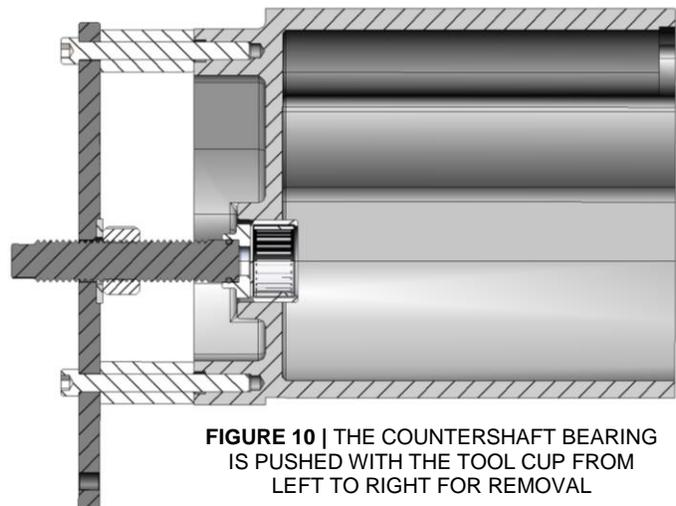

FIGURE 10 | THE COUNTERSHAFT BEARING IS PUSHED WITH THE TOOL CUP FROM LEFT TO RIGHT FOR REMOVAL
2. With the cup (9) centered on the countershaft bearing, finger tighten the nut (5) and cap screws (10). Secure the cap screws (10) with an Allen wrench. Hold the threaded shaft (2) with a 9/16" combo wrench or 5/16" allen wrench. Press the countershaft bearing through the case by tightening the nut (5) against the washer (6) and case support plate (1); see figure 10.